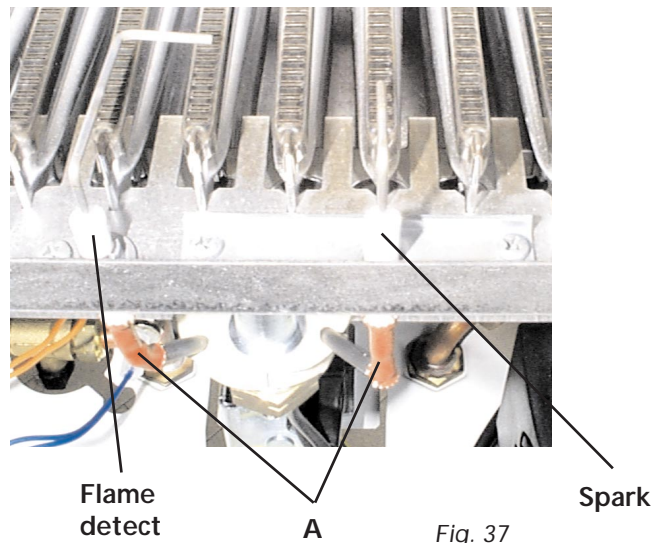

Fig. 37
7.12 Spark or flame detect electrode (fig. 37)
- Identify electrode from fig. 37